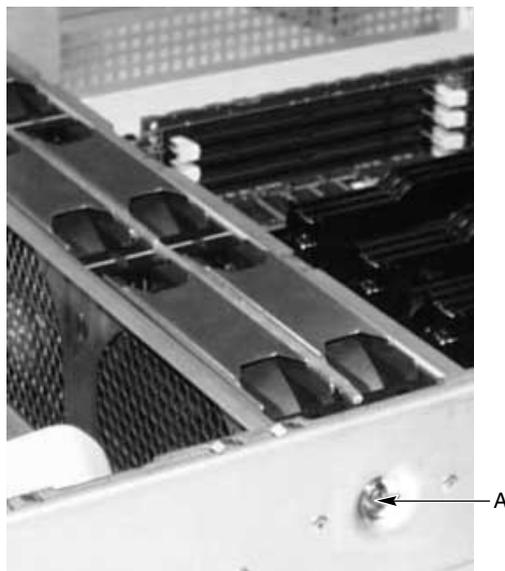

Figure 2-7 Fan Board Assembly Screw
6. Remove the two screws that secure the board assembly to the chassis. Set the screws aside. You will need them later in this procedure. One of the screws is noted by “A” in Figure 2-7.
6. Attach the two screws that secure the board assembly to the chassis. See Figure 2-7 on page 39.